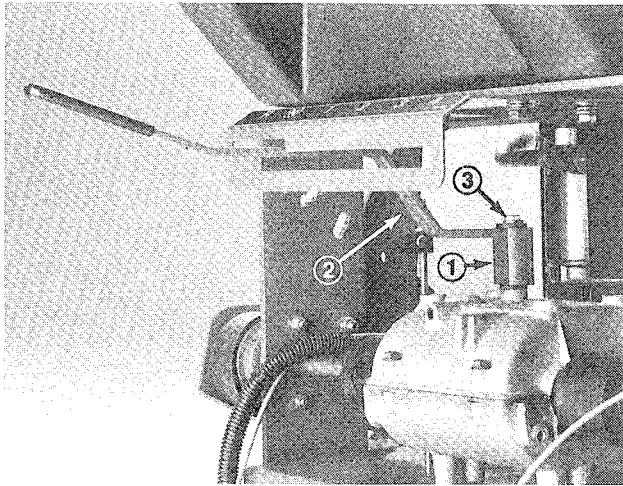

Figure 3
2. Insert shift lever thru slot in control panel and align mounting hole in lever with mounting block on transmission. Secure lever to transmission with 1/4-28 x 2" lg. cap screw and thick, black, washer. Torque capscrew to 100-125 in - lb (Fig. 3).